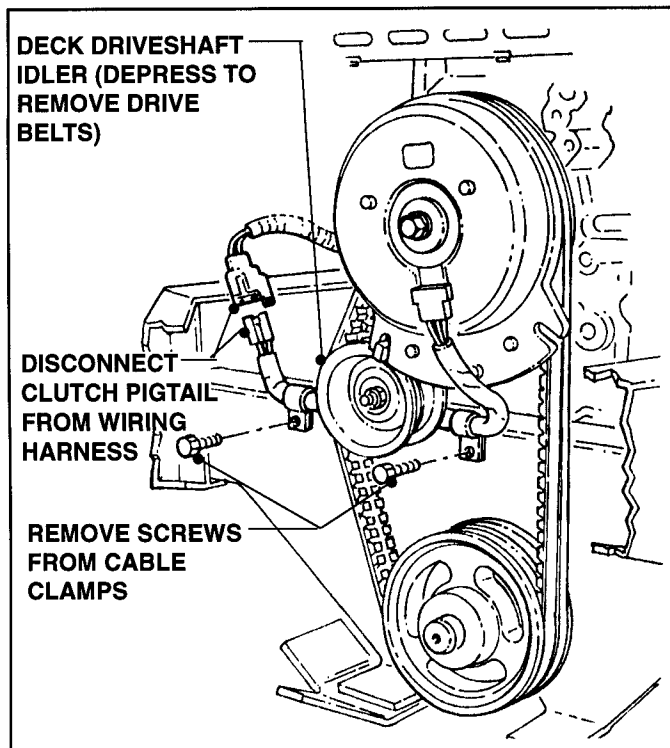

FIGURE 4.4
- D. Disconnect Electric Clutch Pigtail from Wiring Harness and remove Fasteners from Cable Clamps. See Figure 4.4.
- E. Depress Deck Driveshaft Idler and remove Drive Belts. Refer to Figure 4.4.